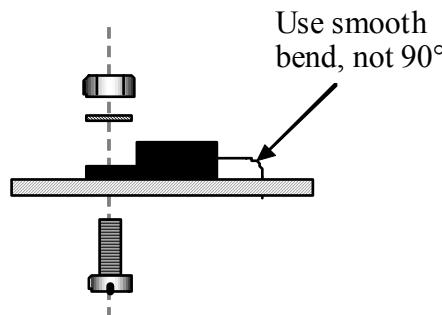

Figure 8-1
- Secure Q6 to the board using a 4-40 x 3/8" (9.5 mm) pan-head screw (shiny finish, not black), #4 internal-tooth lock washer, and 4-40 nut. The screw should be inserted from the bottom side (Figure 8-1).